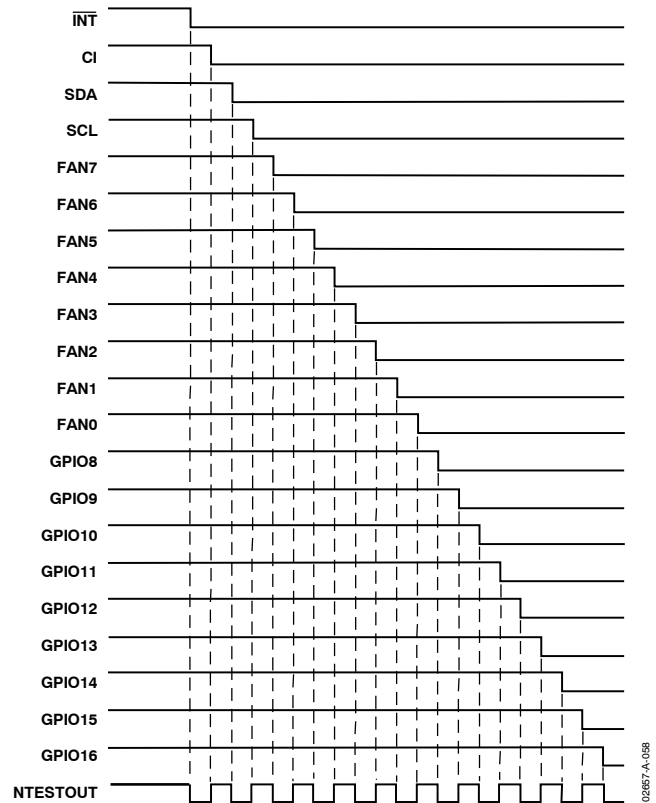

Figure 58. NAND Tree Test Taking Inputs Low in Turn
2. Start with all inputs high and take them low in turn, starting with the input furthest from NTEST_OUT (INT) and working down the tree to the input nearest to NTEST_OUT (GPIO16/THERM). This should give a similar output pattern to Figure 58.